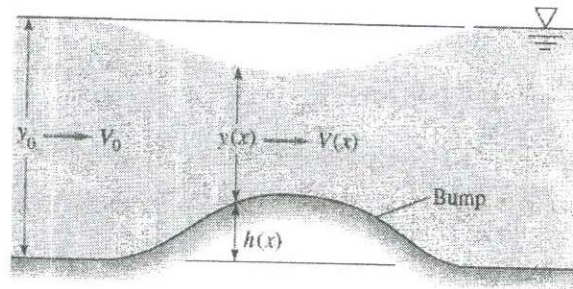

Figure Q5: Flow over bump in a wide channel
- (c) Consider the flow in a wide channel over a bump, as in below Figure Q5.